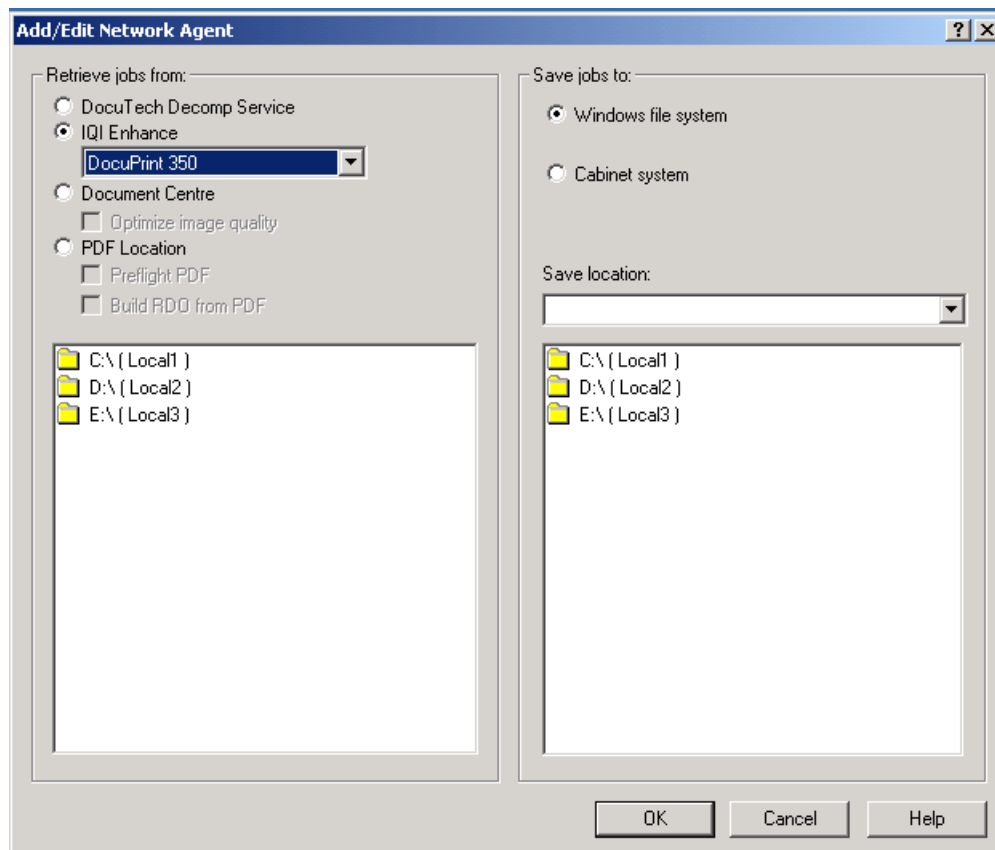

Figure 9-4. Add/Edit Network Agent dialog box
5. Select [Add] to add a new network agent IQI Enhance queue for the Document Centre. The Add/Edit Network Agent dialog box opens. See Figure 9-4.